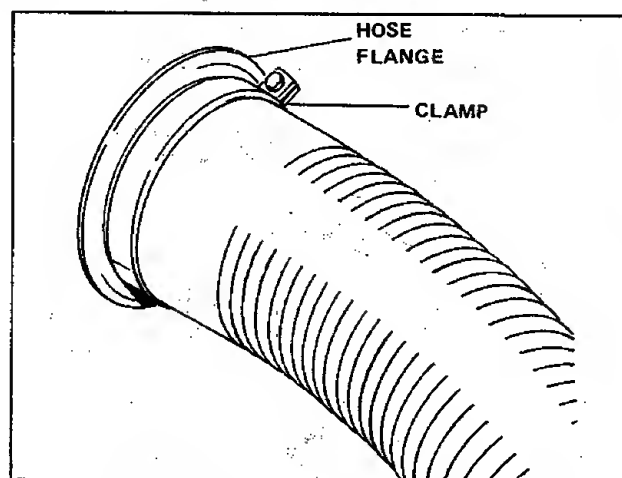

Figure 27. Installing Hose Flange
1. Attach the mounting flange and clamp on the plain end of the hose. Tighten the clamp screw securely. (Figure 27).